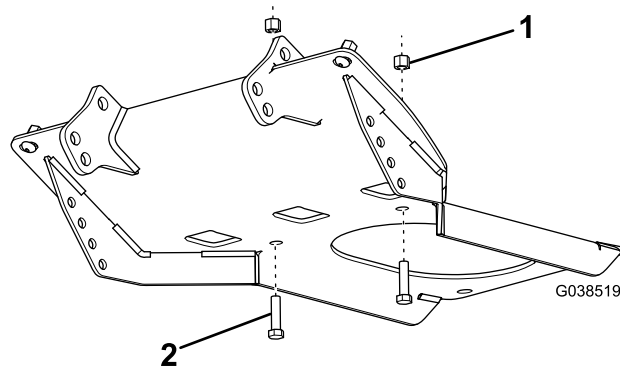

Figure 2
7. Secure the plow skid plate and vehicle bottom skid plate to the vehicle frame using 2 bolts (3/8 x 1-1/2 inch) and 2 locknuts (3/8 inch) as shown in Figure 2.